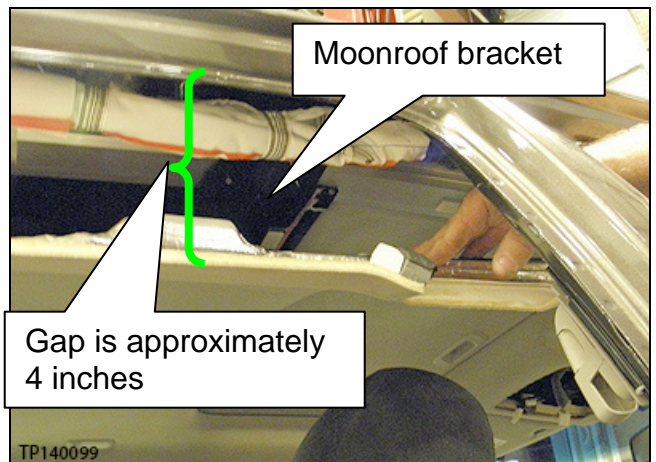
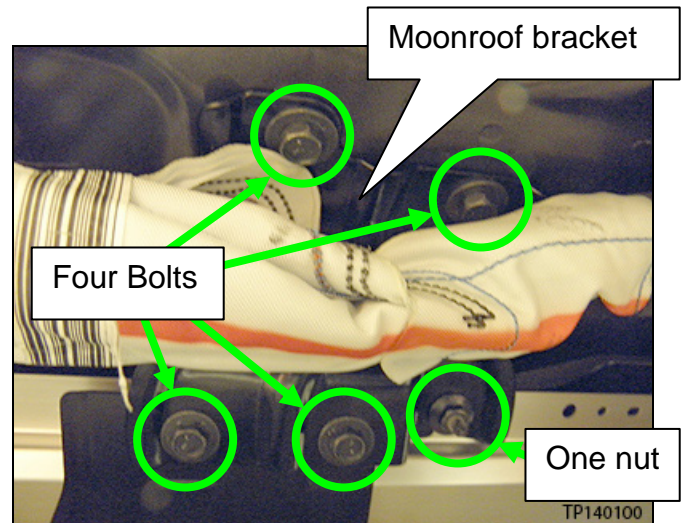

Figure 8
Figure 9
11. Gently pull the headliner down, one side at a time, and remove both of the Moonroof side brackets (shown in Figure 8 and Figure 9).